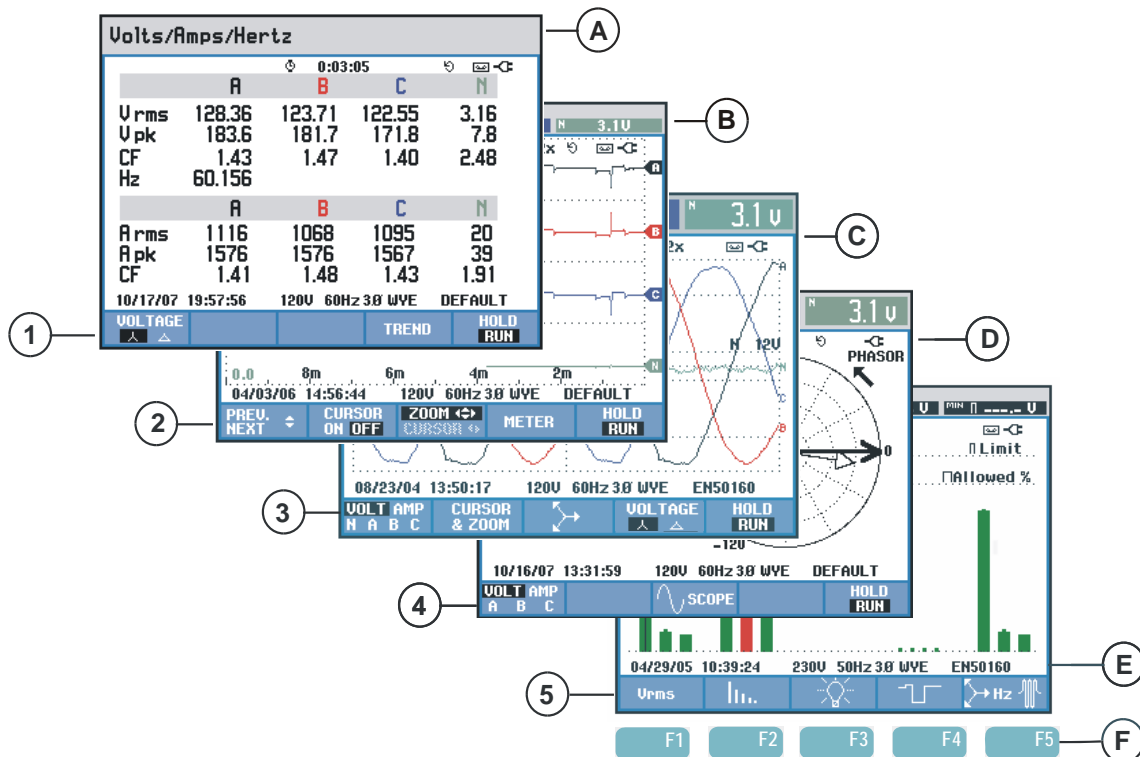

Figure 5-1. Survey of Display Types
Below you will find a brief description of each screen type and its purpose. The measuring mode it is used for is given as well as the manual chapter with detailed information. Bear in mind that the amount of screen information depends on the number of phases and the wiring configuration. Refer to Figure 5-1, item 1 ... 5.
- ① Meter screen: gives an instantaneous overview of a big number of important numerical measuring values. Used for: Volts/Amps/Hertz (Chapter 8), Dips & Swells (Chapter 9), Harmonics (Chapter 10), Power & Energy (Chapter 11), Flicker (Chapter 12), Unbalance (Chapter 13), and Power Quality Monitoring (Chapter 18).
- ② Trend screen: this type of screen is related to a Meter screen. Trend shows the course over time of measuring values from the Meter screen. After selection of a measuring mode, the Analyzer starts recording all readings in the Meter screen. Used for: Volts/Amps/Hertz (Chapter 8), Dips & Swells (Chapter 9), Power & Energy (Chapter 11), Flicker (Chapter 12), and Inrush Currents (Chapter 15).
- ③ Waveform screen: shows voltage and current waveforms as displayed on an oscilloscope. Channel A (L1) is reference channel and 2 complete cycles starting at 0 volt are displayed. The nominal voltage and frequency determine the measuring grid size. Used for: Scope Waveform (Chapter 7) and Transients (Chapter 14).
- ④ Phasor screen: shows the phase relation between voltages and currents in a vector diagram. The vector of reference channel A (L1) points to the positive horizontal direction. The A (L1) amplitude is also reference for the measuring grid size. Used for: Scope Phasor (Chapter 7) and Unbalance (Chapter 13).
- ⑤ Bar Graph screen: shows the density of each measuring parameter as a percentage by means of a Bar Graph. Used for: Harmonics (Chapter 10) and Power Quality Monitor (Chapter 18).
Refer to Figure 5-1, item A ... F